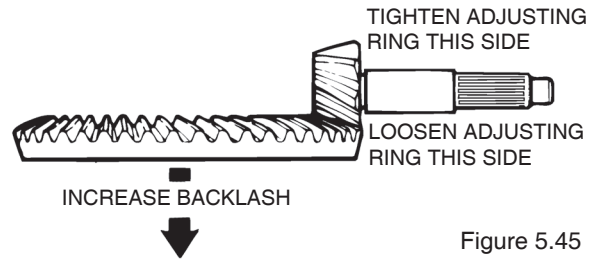

Figure 5.45
- To increase the backlash, move the ring gear away from the drive pinion. Figure 5.45.